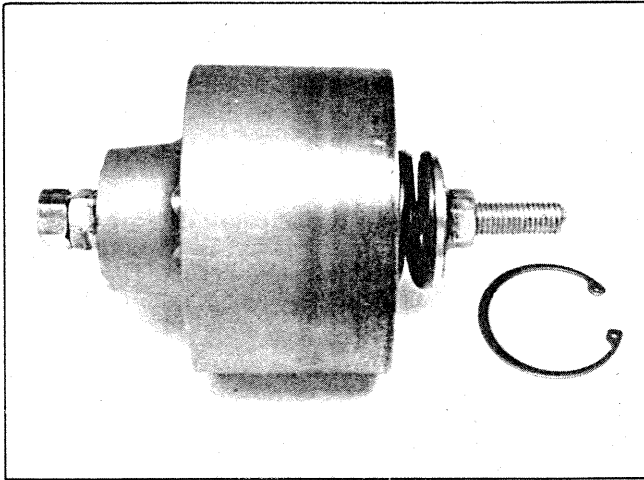

Figure 13. Cylinder Block Subassembly Disassembly Tool
10. Reach in housing and slowly remove cylinder block (23) from housing. The pistons (32) will now be exposed in the housing.
11. Remove plugs (25), (28) and pin (26) from housing. Discard "O" rings (27) and (29).
12. Reach into housing with a length of 3.175 mm (1/8 inch) drill rod (noted in special tool section) and rotate limiter (30) with the drill rod to unlock shoe plate (31) from housing.
13. Remove limiter (30), shoe plate (31), and nine pistons (32) from housing (39).
14. Remove screws (1) and retainer ring (2). Then, remove shaft (15) and slide special retainer tool from the shaft. Remove bearing washer (13a) from shaft (MFD45 models only).
15. If shaft bearing (13) needs to be replaced, set shaft (15) in arbor press and remove bearing (13). DO NOT remove retaining ring (14) and bearing (13) unless inspection reveals the parts defective.
16. Remove swash plate (33) from housing (39). If pin (34) is damaged, remove it from housing.
17. If necessary, remove items (35) through (38) from cylinder block (23). See Figure 13 for disassembly instructions.
a. Install front washer (38), spring (37), back washer (36) and retaining ring (35). Refer to Figure 13 and reverse removal procedure. MAKE SURE that sharp edge of retaining ring (35) points outward and is seated properly within its groove, before removing threaded tool from cylinder block.
b. Install shaft (15) through cylinder block (23). If shaft does not go through cylinder block, tap on side of block with rubber or plastic hammer. This procedure will center spring (37) and washers (36 & 38) with shaft (15).